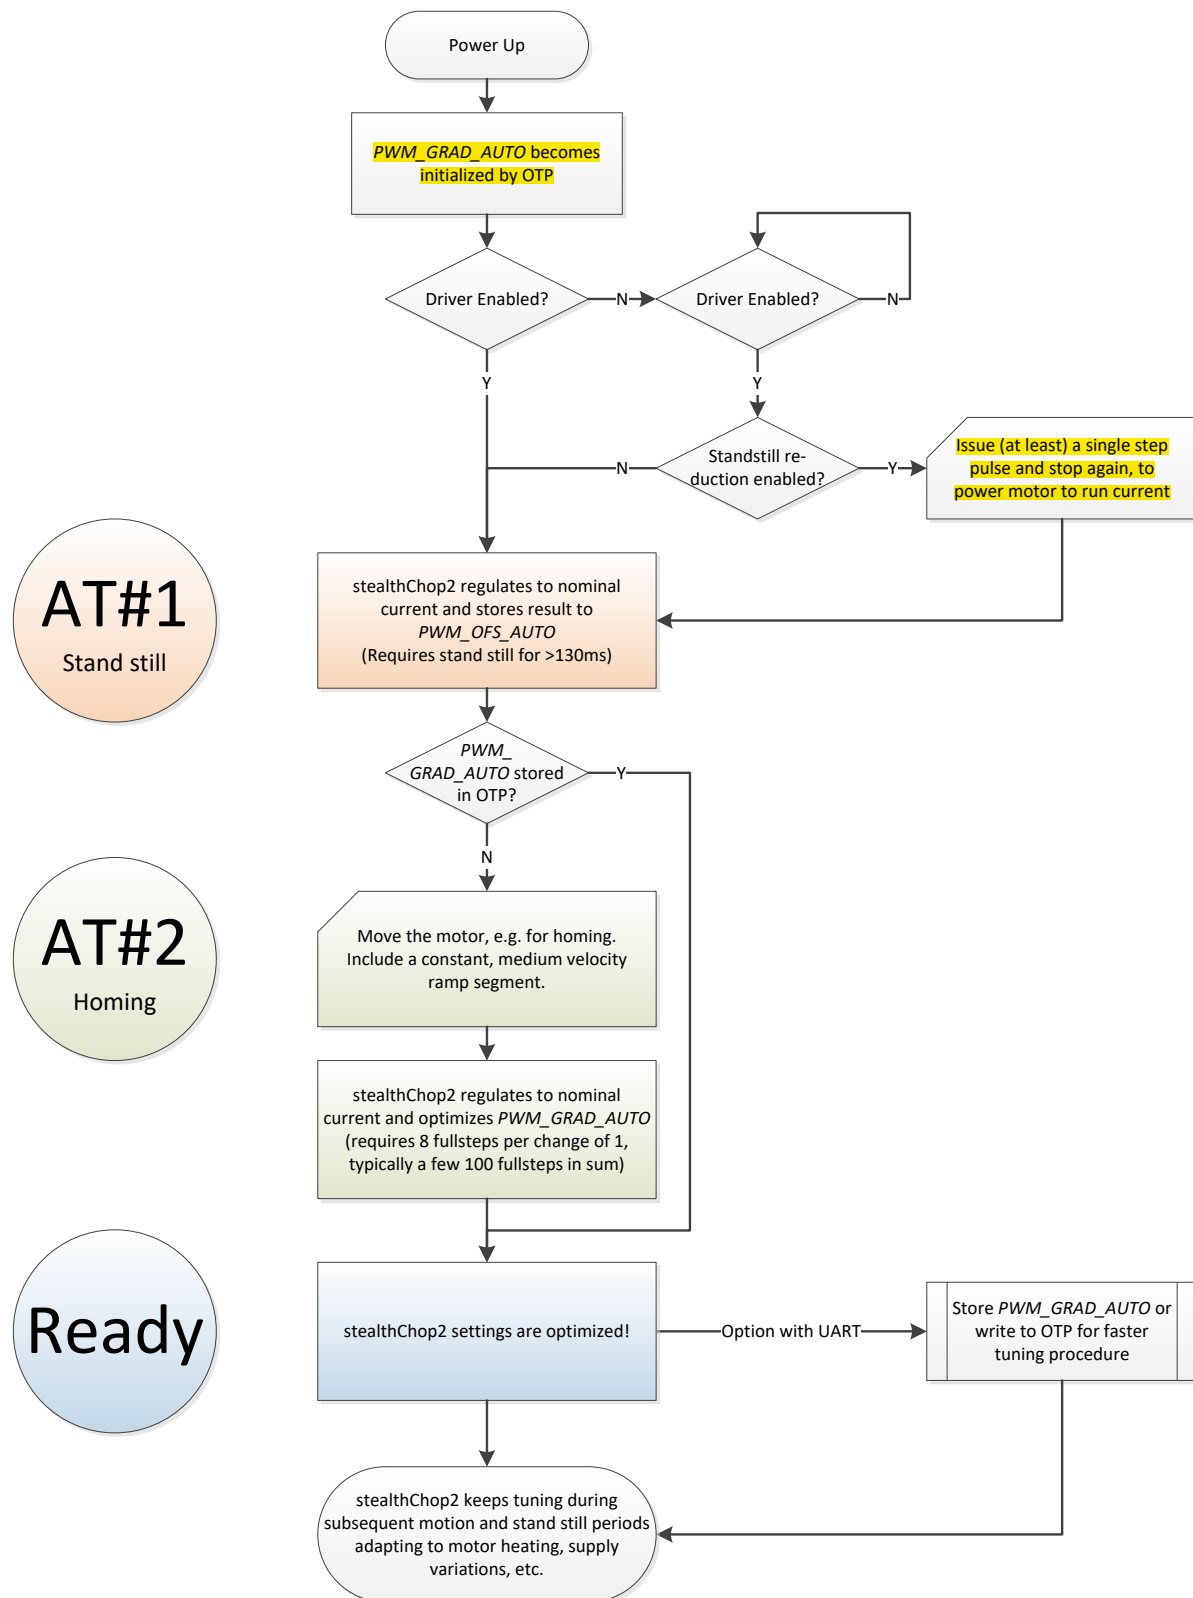

Figure 6.2 StealthChop2 automatic tuning procedure
StealthChop2 integrates an automatic tuning procedure (AT), which adapts the most important operating parameters to the motor automatically. This way, StealthChop2 allows high motor dynamics and supports powering down the motor to very low currents. **Just two steps have to be respected by the motion controller for best results: Start with the motor in standstill, but powered with nominal run current (AT#1). Move the motor at a medium velocity, e.g. as part of a homing procedure (AT#2).** Figure 6.2 shows the tuning procedure.